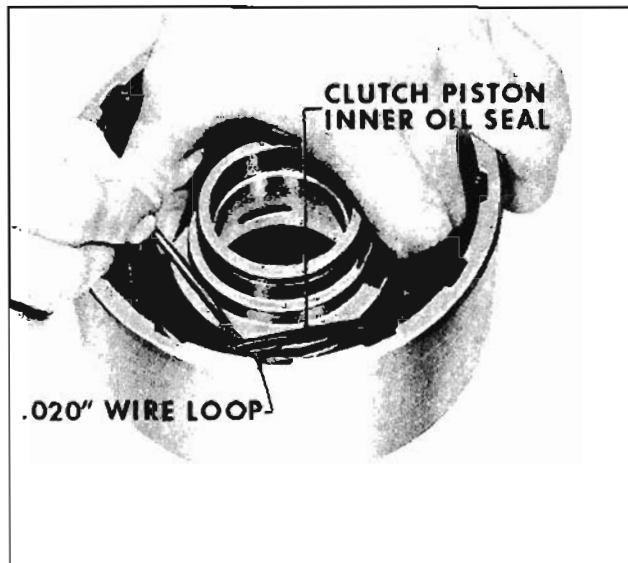

Fig. 6-356 Removing Inner Seal
11. Examine forward clutch piston inner seal. If nicked, torn or worn, remove seal. (Fig. 6-356)